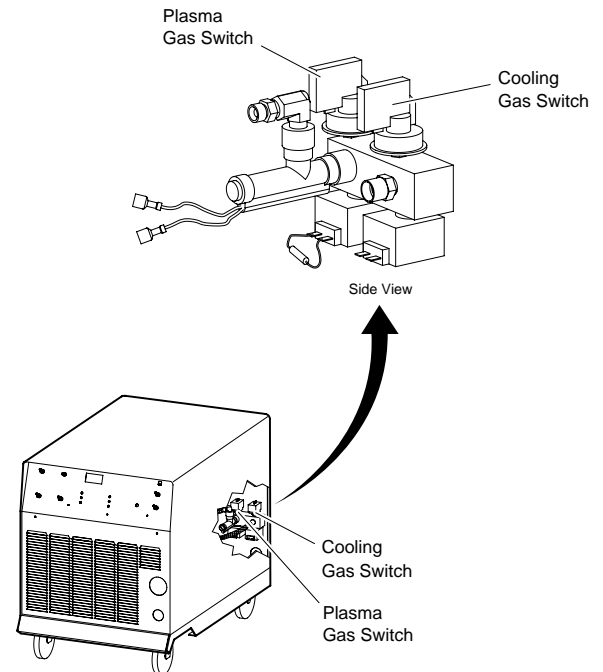

Figure 2-2. Gas Pressure Switch
2.6 ADJUSTMENT OF GAS PRESSURE SWITCH (Figure 2-2.)